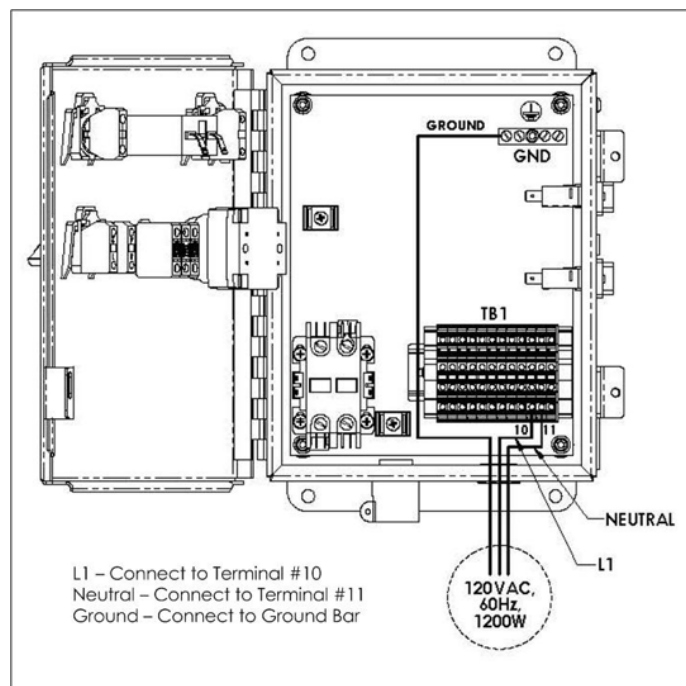
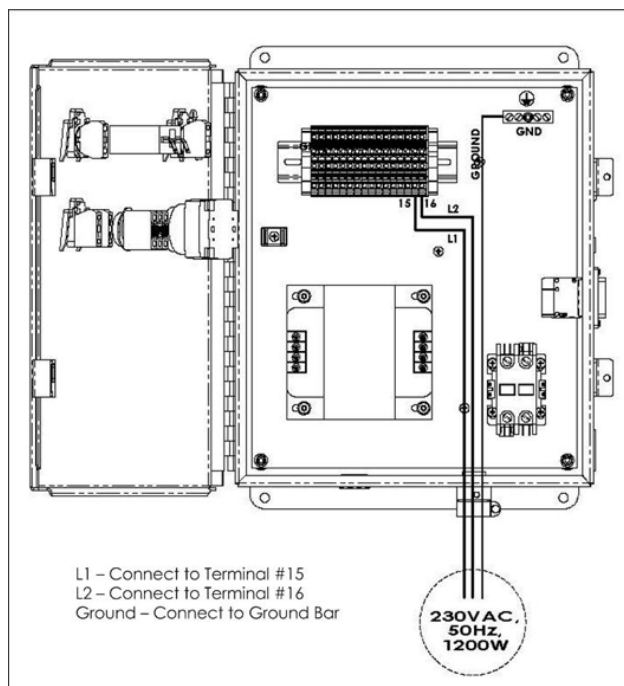

Figure 6
Figure 7
STEP 8: Install main electrical service and make connections in the control panel as follows (see Figure 6 on Page 8 for HRC06TA00 120VAC/60Hz and Figure 7 on Page 8 for HRC06TA01 230VAC/50Hz).